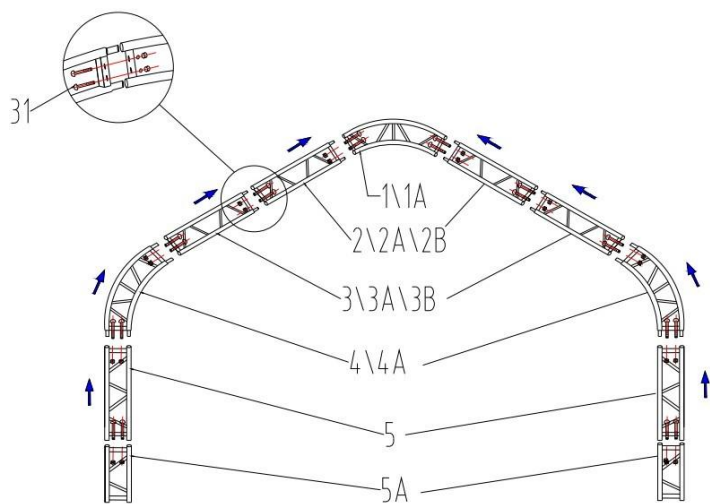
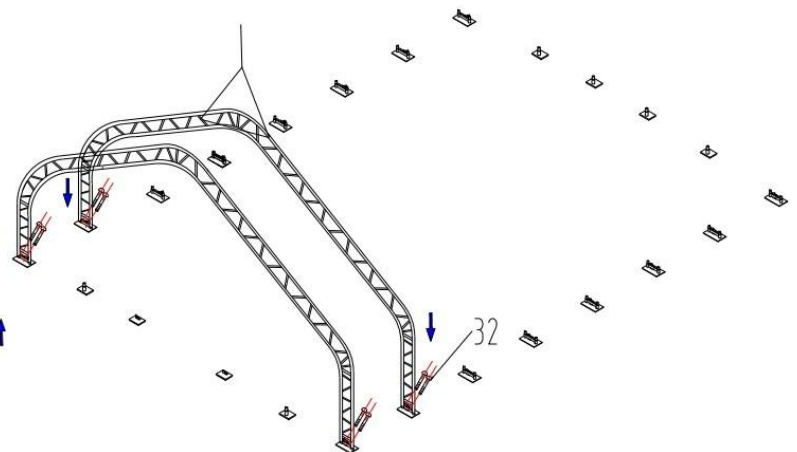

Figure 3
Figure 4
1. Figure 3 shows to connect the Top roof tube (No. 1/1A), Roof curving tube (No. 2/2A), Lower curving tube (No. 3/3A), Roof curving tube at shoulder (No. 4/4A) and Upper standing leg (No. 5), Lower standing leg (No. 5A) with Bolt M12x50 (No. 31), then put the arch into tube of the Base flange by hoist, and assemble every group arch by turns (see Figure 4). **Do not install the bolts on the top of the truss where the fabric will rest.**